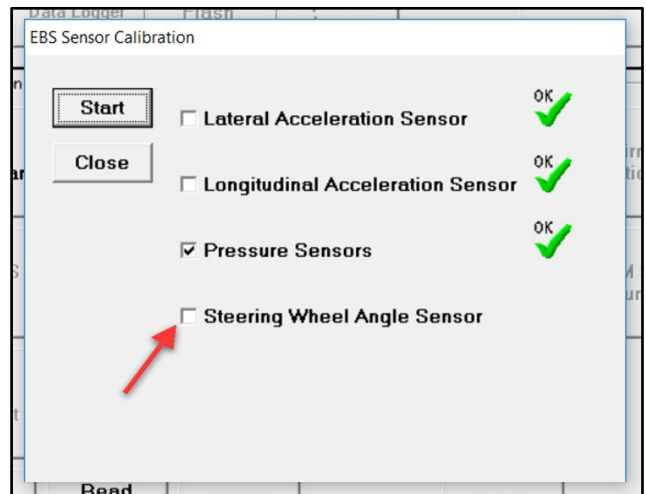

Figure 17
31. Click "Steering Wheel Angle Sensor" (refer to Figure 17).